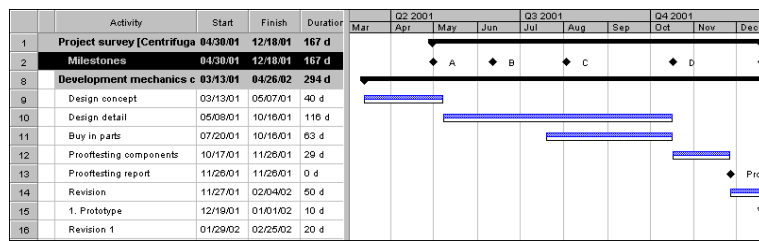

Figure 65: Target/actual comparison directly after setting the baseline status
2. Choose *Tools* → *Set Baseline Status* → *All Activities* or *Only Activities Not Set* to assign a second bar in the form of a target bar to each activity (Figure 65). If the dates are now moved, the difference between the two bars will graphically illustrate the divergence from the baseline status.